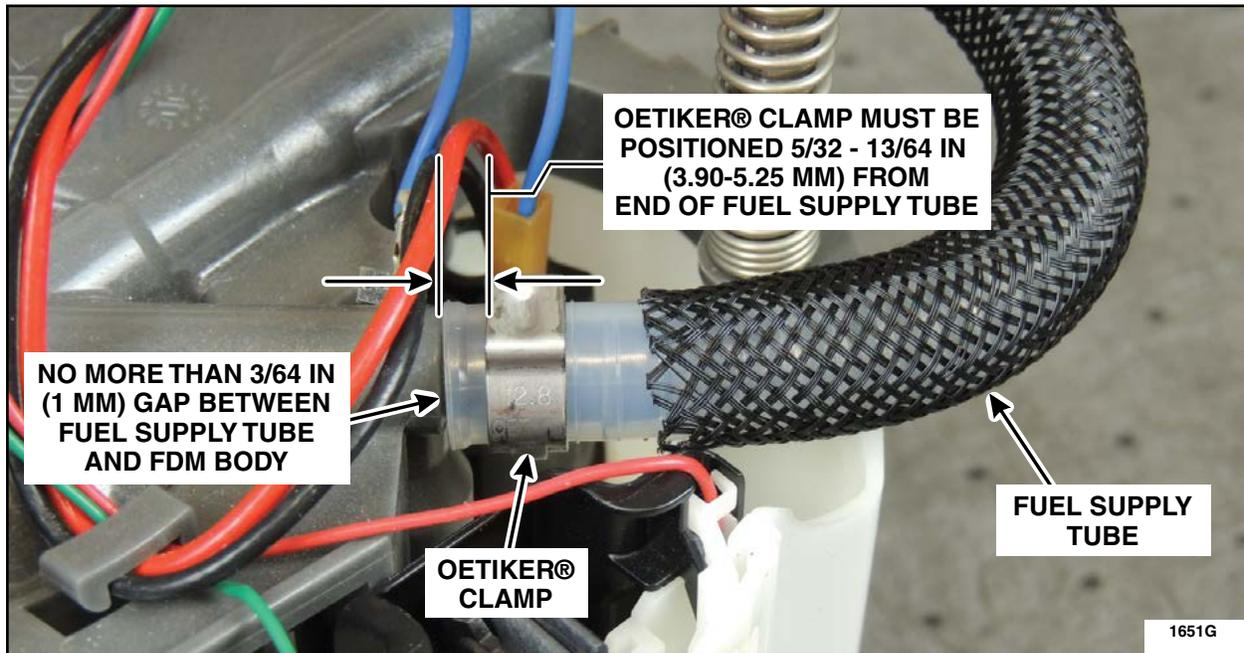

FIGURE 9
9. Connect the new fuel supply tube to the supply port and tighten the Oetiker® clamp using Oetiker® clamp pliers. See Figure 9.